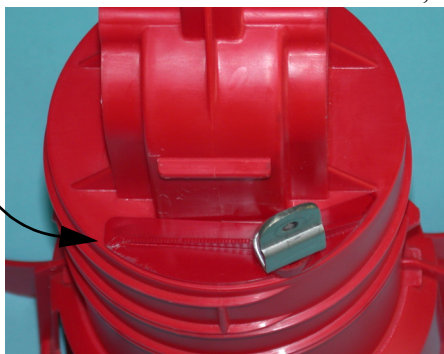

Figure 27. Rotate brood adjustment prior to grill installation.
2. Rotate brood adjustment until cover washer is flush with outer cone, see figure 27.